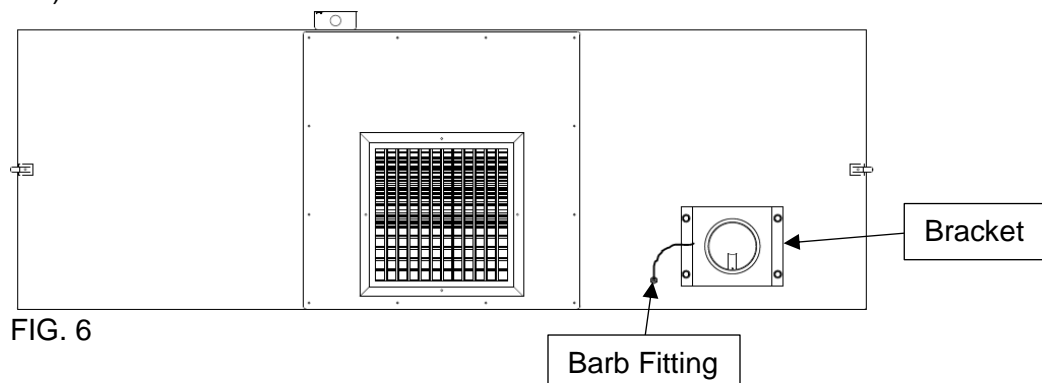

FIG. 6
6. Using $\frac{1}{4}$ " clear tubing connect the "LOW" pressure port on the gauge to the barb fitting on the unit. The "HIGH" pressure port stays disconnected (See **FIG. 6** for typical installation).